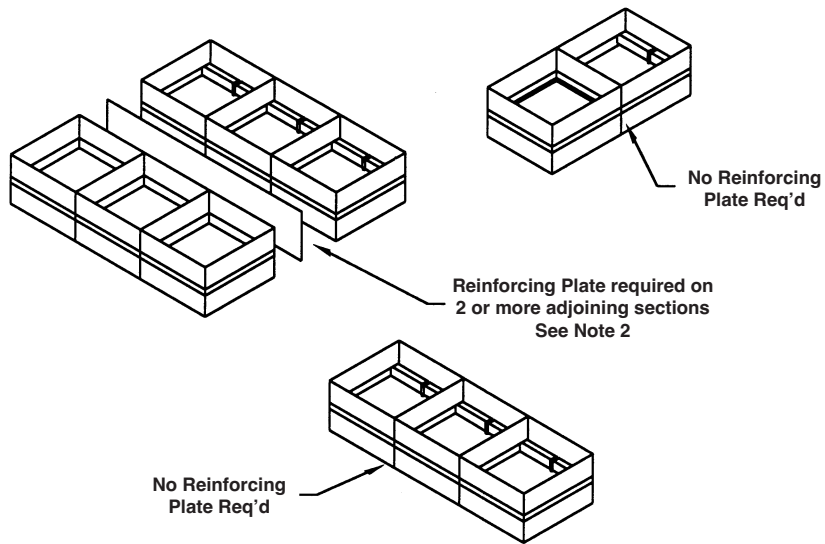

FIGURE 5
Multiple section horizontal mount dampers require a 14 gage thick x 4 1/2" (2 x 114) wide steel reinforcing plate sandwiched between the damper frames with 1/2" (13) long welds staggered intermittently and spaced on maximum 6" (152) centers. The reinforcing plate must be the same material as the dampers. The length must be equal to the damper width of two or more adjoining damper sections. Reinforcing plates are not required for assemblies consisting of two dampers attached end-to-end or three dampers attached side-to-side as depicted in figure 5.